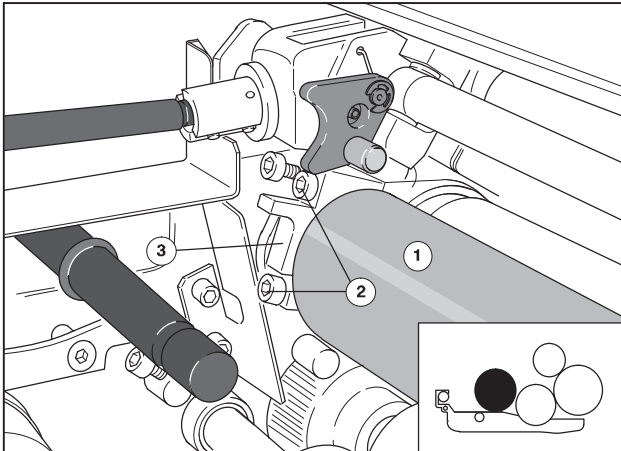

Fig. 25 Removing the dampening roller
2. Unscrew the Allen screws (Fig. 25/2) at the bearing cap (Fig. 25/3) using the operator tool. The Allen screws remain in the bearing cap.
3. Remove the bearing cap (Fig. 25/3).
5. Lift the dampening roller (Fig. 25/1) out of the bearing shells.